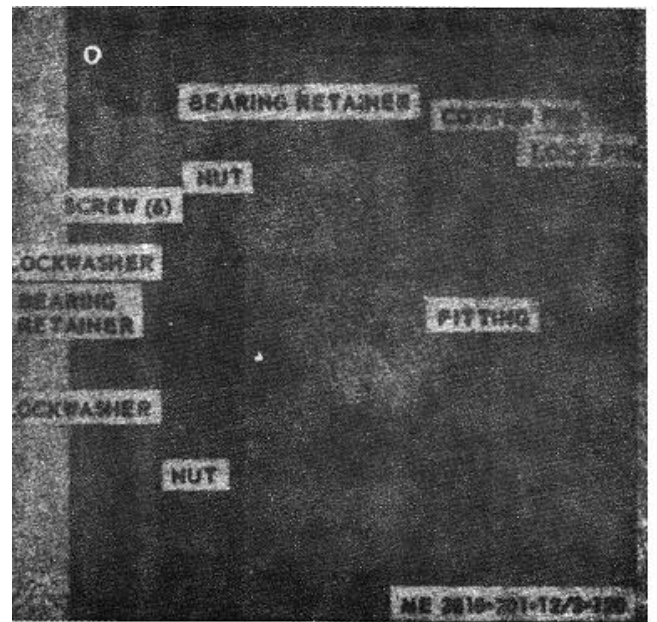

Figure 3-107. Vertical Intermediate shaft adjustment.
a. Remove cotterpin (fig. 3-107) and lockpin from bearing retainer.